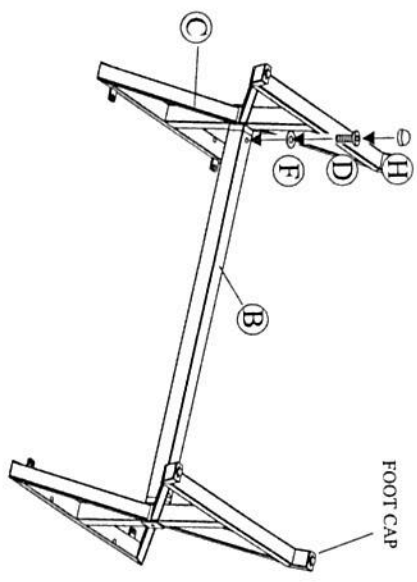

Figure 1
**Step 2:** Attach a leg to the leg connector bracket by using a 1/4"x20 mm bolt and Ø6.5x1.0 mm washer as shown in *Figure 1*. Guide the bolt through the hole in the leg connector bracket, into the pre-drilled hole in the leg. **Hand tighten only 2-3 turns.** Repeat for the other leg.